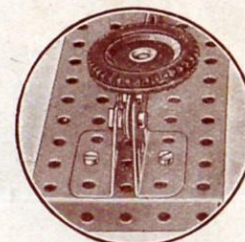

Fig. O.20a
The 5½" Strip (4) is held on a ½" Bolt between two Trunnions as shown in the inset, Fig. O.20a.